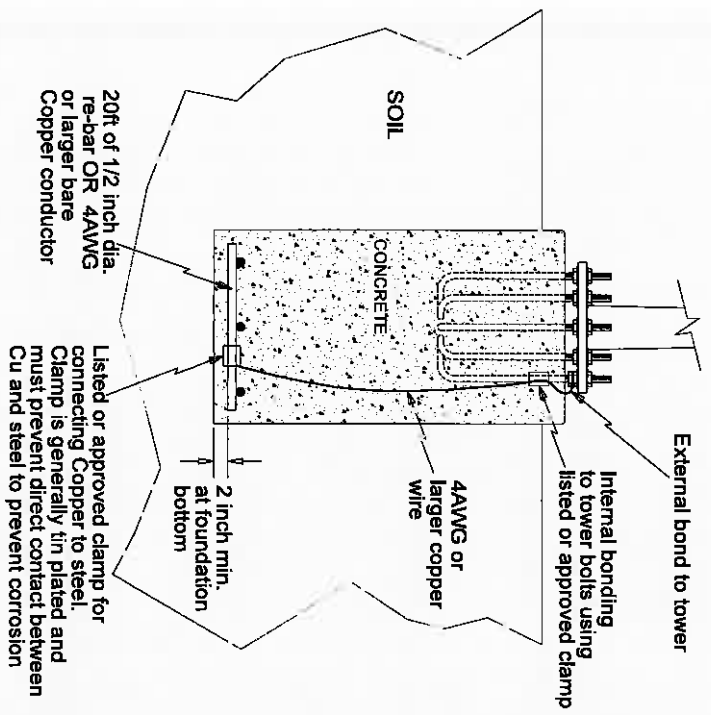

Fig. 4 Concrete encased electrode.
- a) The Electrode must be at least 20 ft (6.0 m) of one or more (electrically connected by steel tie wires) bare or zinc galvanized steel or other electrically conductive coated steel reinforcing bars or rods of not less than 1/2 in (13 mm) in diameter, located near the bottom of the concrete foundation that is in direct contact with the earth. The electrode must be encased by at least 2 in (50 mm) of concrete as shown in figure 4. The reinforcing bars, if bare, must not be rusted at the time of installation to prevent bad electrical connection between bars and with the grounding electrode conductor. The reinforcing bars must be electrically connected to the anchor bolts either using the steel tie wires or using the grounding electrode conductor. The grounding electrode conductor must not be smaller than 4AWG copper and must be electrically bonded to the bottom reinforcing bars using listed/approved means that is suitable for concrete encasement. Sufficient extra length of the conductor must be available to bring it out of the foundation top and at least 18 in above the foundation top. It should then be bonded to the tower as described in section 1.5 of this document.